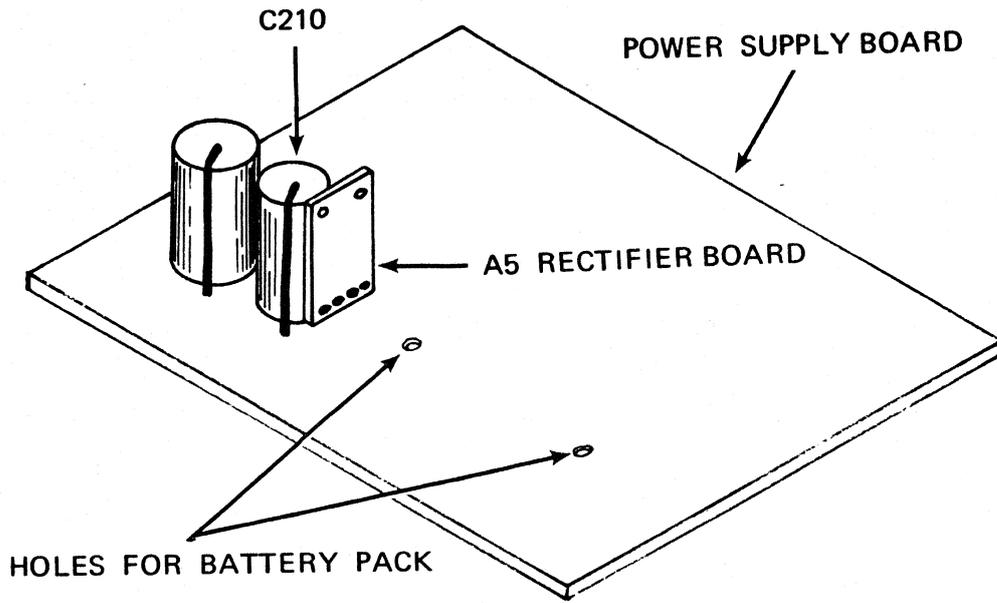
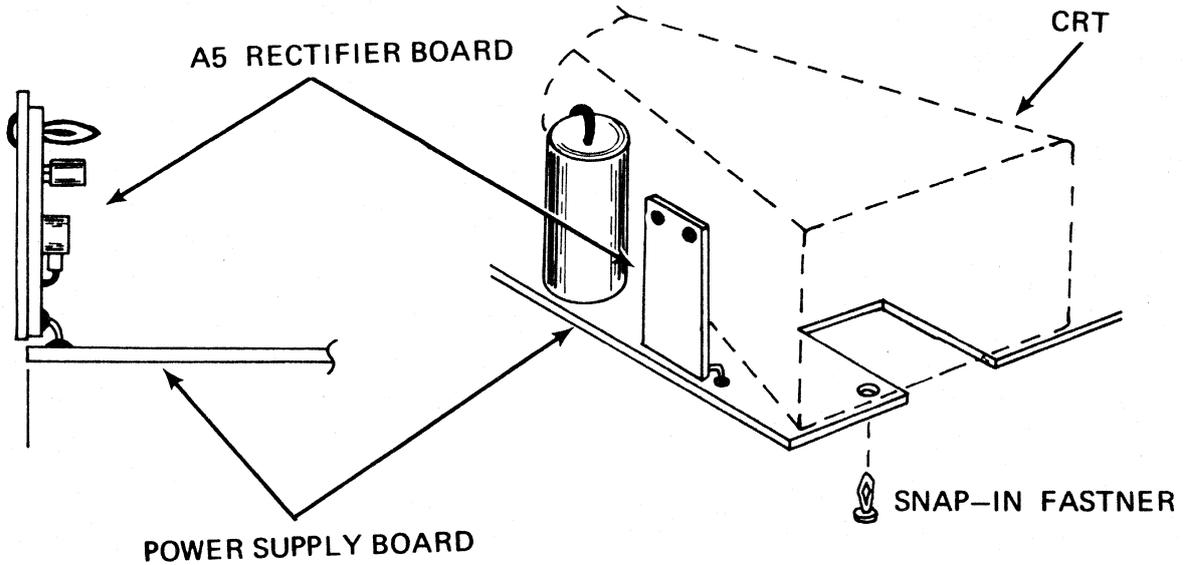

Fig. 1
Fig. 2
- ( ) 11. Solder the A5 Rectifier circuit board into the holes vacated by CR215. For 211 instruments, the "parts side" of the A5 circuit board should face C210 (See Fig. 1). For 212 and 214 instruments, the "parts side" of the A5 circuit board should face the crt (See Fig. 2). Clip any long leads flush with the board.
- ( ) 12. On 212/214 instruments, add the snap-in fastener to the Power Supply circuit board as shown in Fig. 2.